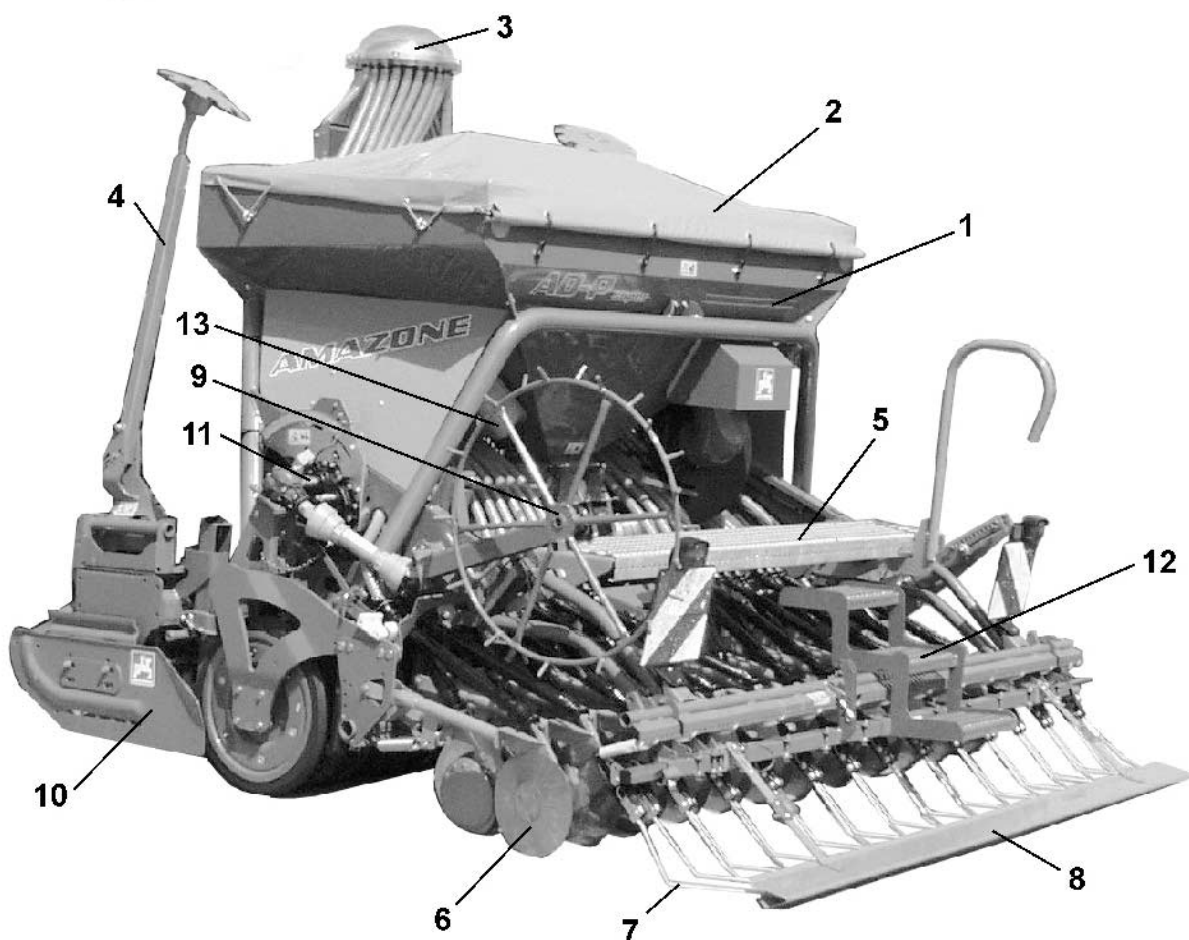

Fig. 8
- 4 Side plates rotary cultivator / rotary harrow (Fig. 8/10)